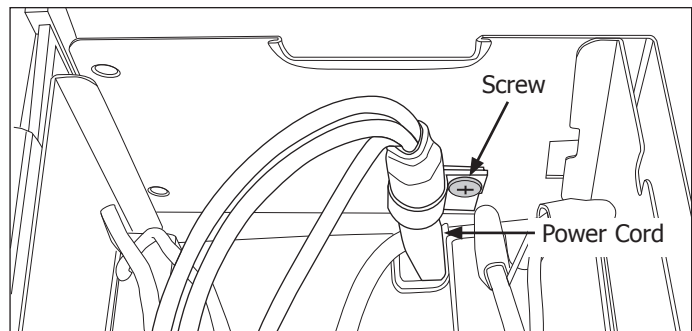

Figure 4-9. FAM Series No Heat
4. Extract the ground screw that secures the power cord ground wire to the control box. (See Figure 4-9)